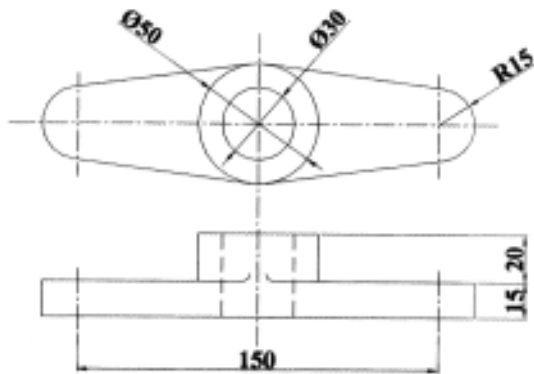

Fig. 5: Close die forging job
- 6. Design forging die for the forging shown in fig. 5. 16